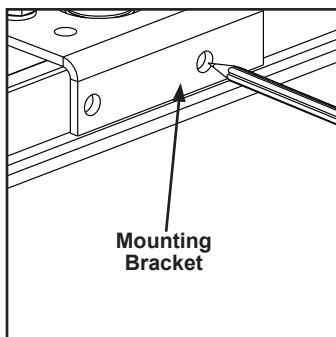

Figure 3-36
- Step 1. Use rail mounting bracket as template to mark rail. See Figure 3-36